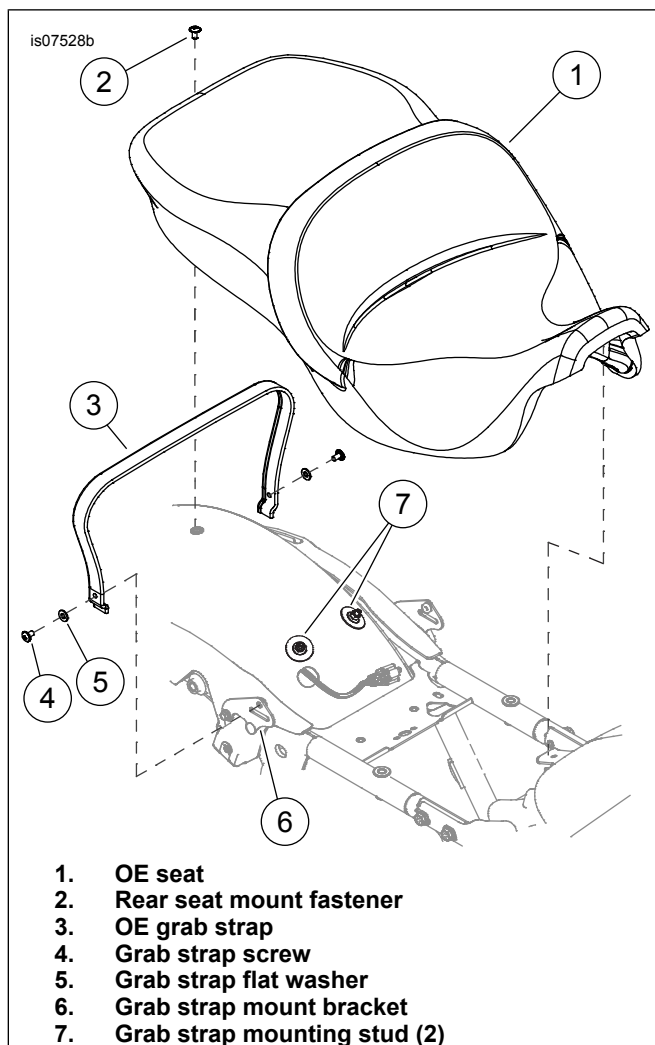

Figure 8. 2014 - Later Touring OE Seat and Grab Strap
- c. See Figure 8. Remove the grab strap screws (4), washers (5) and grab strap (3) from the vehicle. Discard hardware and grab strap.
- d. Grab strap mount brackets (6) can be left on the vehicle or removed. IF removed, install the mount bracket fastener removed earlier per the service manual.